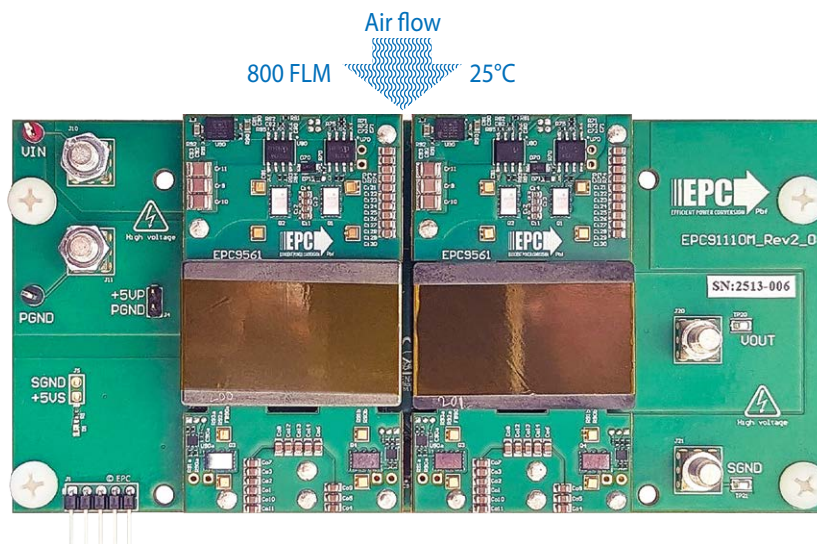

Figure 9: Recommended air-flow orientation for optimal cooling of the converter
The EPC91110KIT is not equipped with a heatsink, so caution must be taken when operating at high output power. It is recommended to use high airflow over the top and bottom surfaces of the KIT while monitoring the FETs' temperature using a thermal camera. Figure 9 shows the recommended airflow orientation for optimal cooling of the converter.
- 5) Place a high airflow fan (~800 LFM or more) as shown in Figure 9.